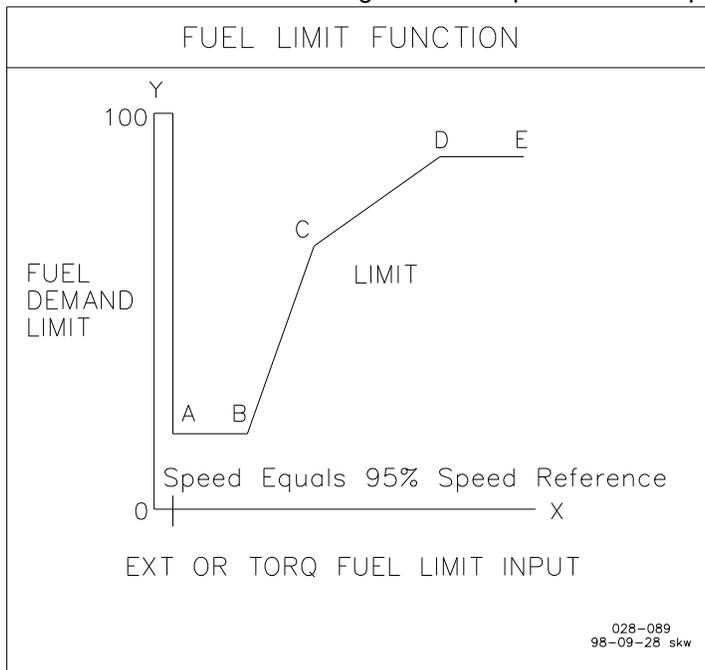

Figure 3-7. Torque Limit Curve
A five-point curve is constructed using the engine manufacturers recommended settings for EXT FUEL LMT versus Fuel Demand. Refer to Figure 3-7. The 'X' values are the Breakpoints and the 'Y' values are the Fuel Limit at the Breakpoints. All values between the designated breakpoints are interpolated.
2. **EXT LIMIT BRKPNT X (EU)** is the External Fuel Limiter value that designates that particular breakpoint (x-axis input in Figure 3-7).
3. **FUEL LIMIT @ BRKPNT X (%FD)** is the percent fuel demand allowed when the External Fuel Limiter input is at that respective Breakpoint (y-axis output in Figure 3-7).